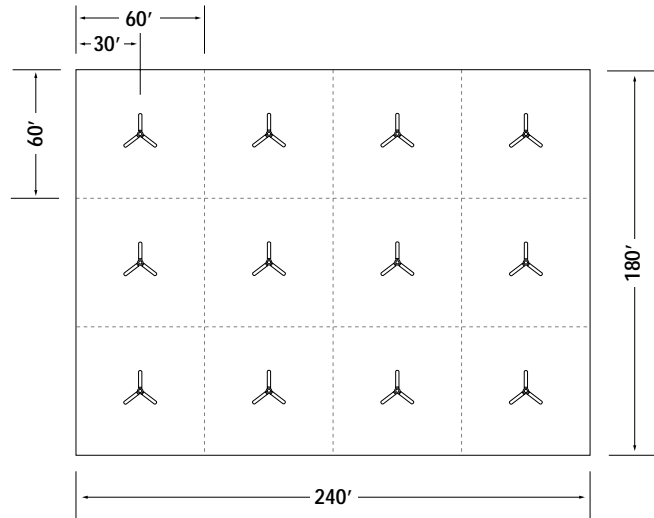

Figure 19
- Compute the total area of your building. Multiply length times width for total square foot area. Prepare a diagram as per **Figure 19**.
- Start your placement from the corner of one section of the building. Example: (**Figure 19**) model 5600-1 at 20 ft. blade mounting height has a 62 ft. x 62 ft. area coverage. The initial placement would be 30 ft. in from the rear wall and 30 ft. in from the side wall. The second fan would be 60 ft. on center from the first, etc...